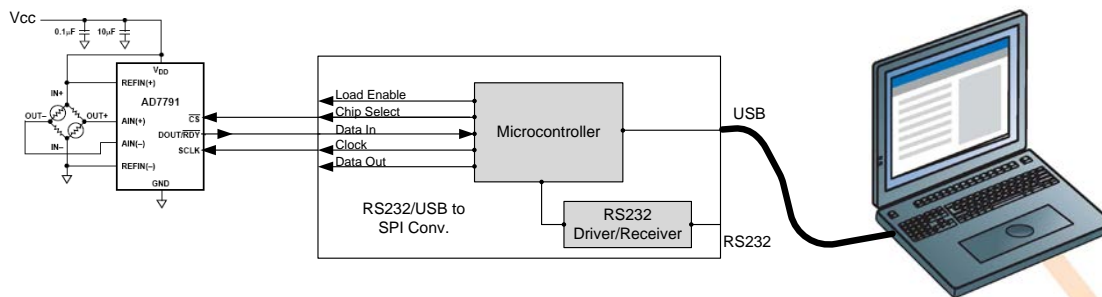

Figure 3.2.2: Reading data from ADC as a voltmeter via USB.
3.2.2 Reading data from an Analog-Digital converter (ADC). Connecting the RS232/USB to SPI converter via either USB or RS232 to a computer allows reading the data output of an ADC, such as for a simple voltmeter application, using the Chip Select, Data In and Clock pins of the convertor (See **Fig. 3.2.2**). This configuration could also be used to read data from any SPI device (A/D, EEPROM, etc...) via USB or RS232 interfaces.